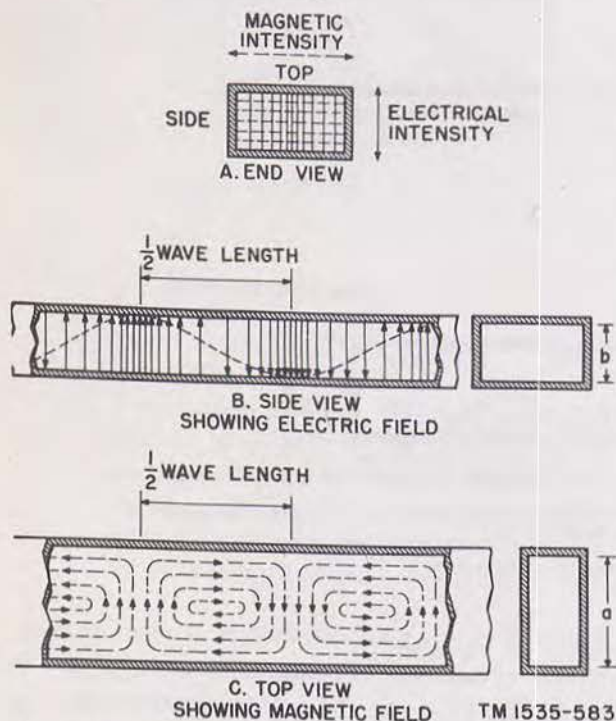
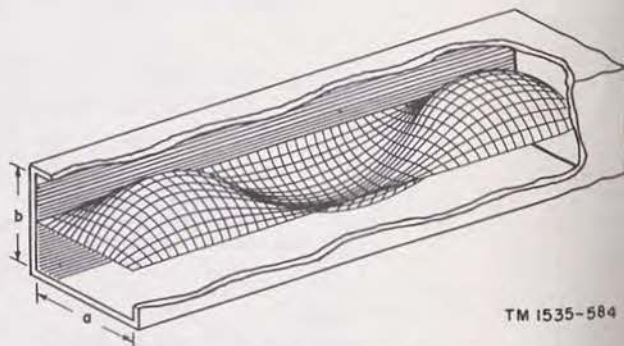

Figure 24. Electric and magnetic field intensity in wave guide.
Figure 25. Wave propagation in wave guide.
*e. Wave Guide Electromagnetic Fields.* The mode of transmission described above is known as the  $TE_{1,0}$  mode. A, figure 24 shows a cross-section of the guide and the electric and magnetic fields. The electric field is most intense at the center and diminishes toward the sides. One-half of a wave length down the guide from a region of maximum intensity the field is again maximum but of opposite polarity (B, fig. 24). The magnetic field, at right angles to the electric field, forms closed loops lying in a plane at right angles to the narrow sides of the guide (C, fig. 24). Figure 25 is a cross section of a wave guide showing wave propagation.